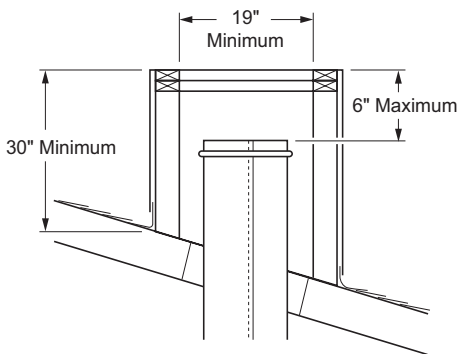

Figure 1 - Constructing Chase
- Construct chase as illustrated in Figure 1.
Note: The shortest vertical side must be at least 30" high and minimum inside dimension must be at least 19" as shown in Figure 1.
- Add pipe sections to chimney system as outlined in fire-place installation instructions until last piece of chimney is a maximum of 6" below top of chase (see Figure 1).